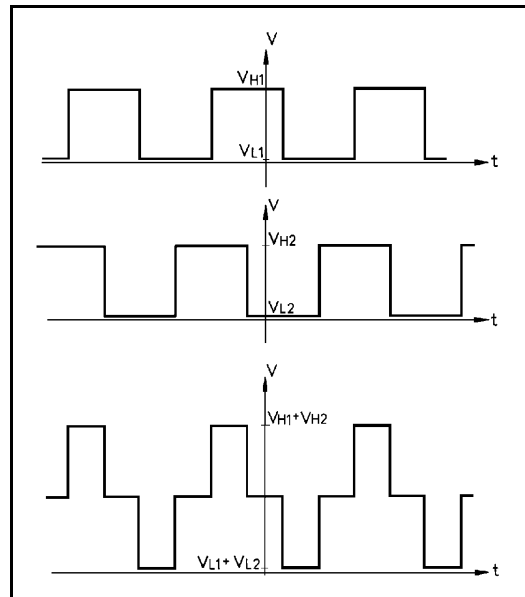

Figure 15: Encoder Signals
- Using an oscilloscope, check the signals ( $P_0$  and  $P_1$ ) received from the encoder's two phototransistors. Figure 15 shows the wave diagrams which emanate from the two channels of the encoder ( $P_0$  and  $P_1$ ) with respect to the time axis. The top two signals should be clean square waves: